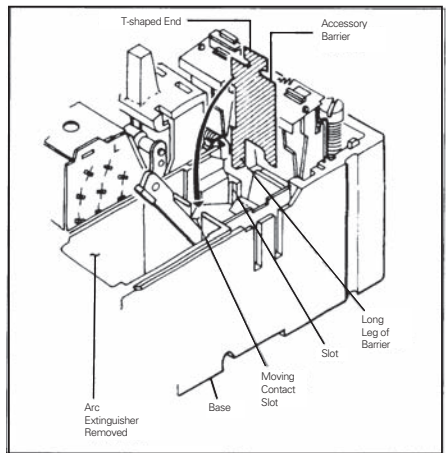

Fig. 2-5. Accessory Barrier Installation Position.
- c. Slide accessory barrier into position between molded crossbar and trip bar. Long leg of barrier must go into slot in base. Bend barrier over and put T-shaped end into moving contact slot in base. (See Fig. 2-5.)